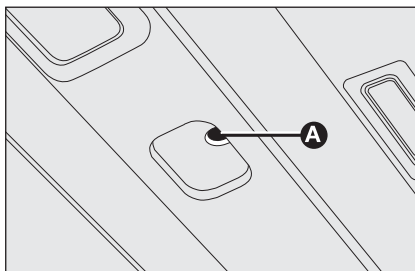

fig. 105
- ☐ insert the provided wrench into the seat **A-fig. 105** and turn it: